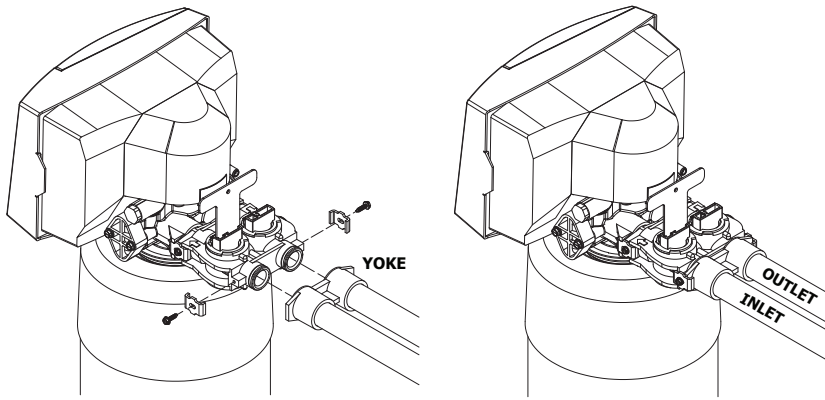

Figure 3
- Connect the raw water supply to the inlet pipe connection of the yoke. When looking at the front of the unit, the inlet is the pipe connection on the right side of the valve (see figure 3). There is an arrow molded into bypass valve indicating the direction of flow.
- Connect the treated water pipe to the outlet pipe connection on the yoke. When looking at the front of the unit, the outlet is the pipe connection on the left side of the valve (see figure 3). There is an arrow molded into the bypass valve indicating the direction of flow.
**Important Note:** Short connections of pipe may allow hot water to back up into the system. Recommend at least 10 linear feet or three (3) linear meters of pipe between Conditioner and Water Heater.
- Once the plumbing is complete, connect the yoke to the bypass valve (see figure 3).
- Install the flow control assembly between the bypass and the couplings, as indicated in Figure 3.